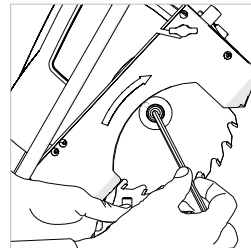

Fig. 29
- Use the hex key (provided) to unscrew the arbor screw. **(Fig. 29)**